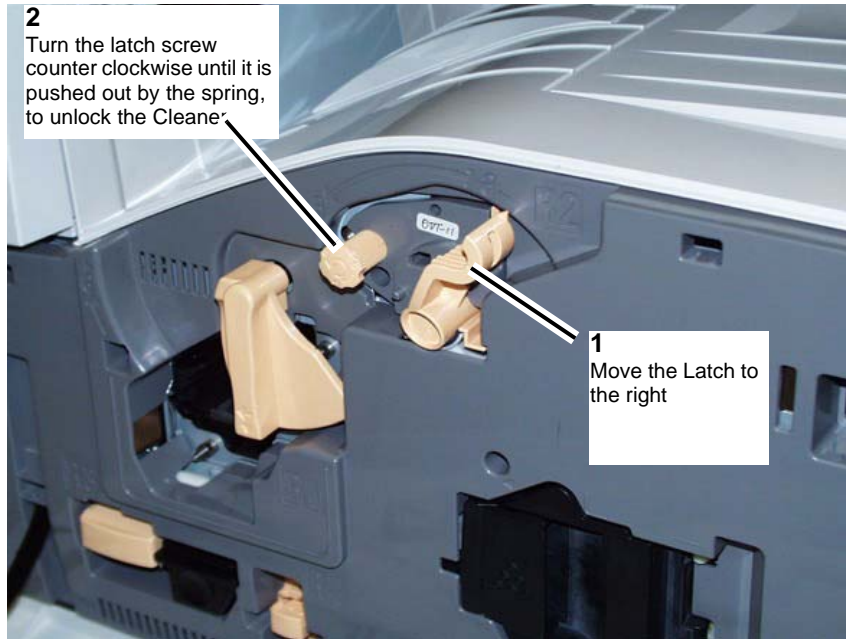

Figure 1 Preparing to remove the Cleaner
2. Prepare to remove the IBT Cleaner. (Figure 1)